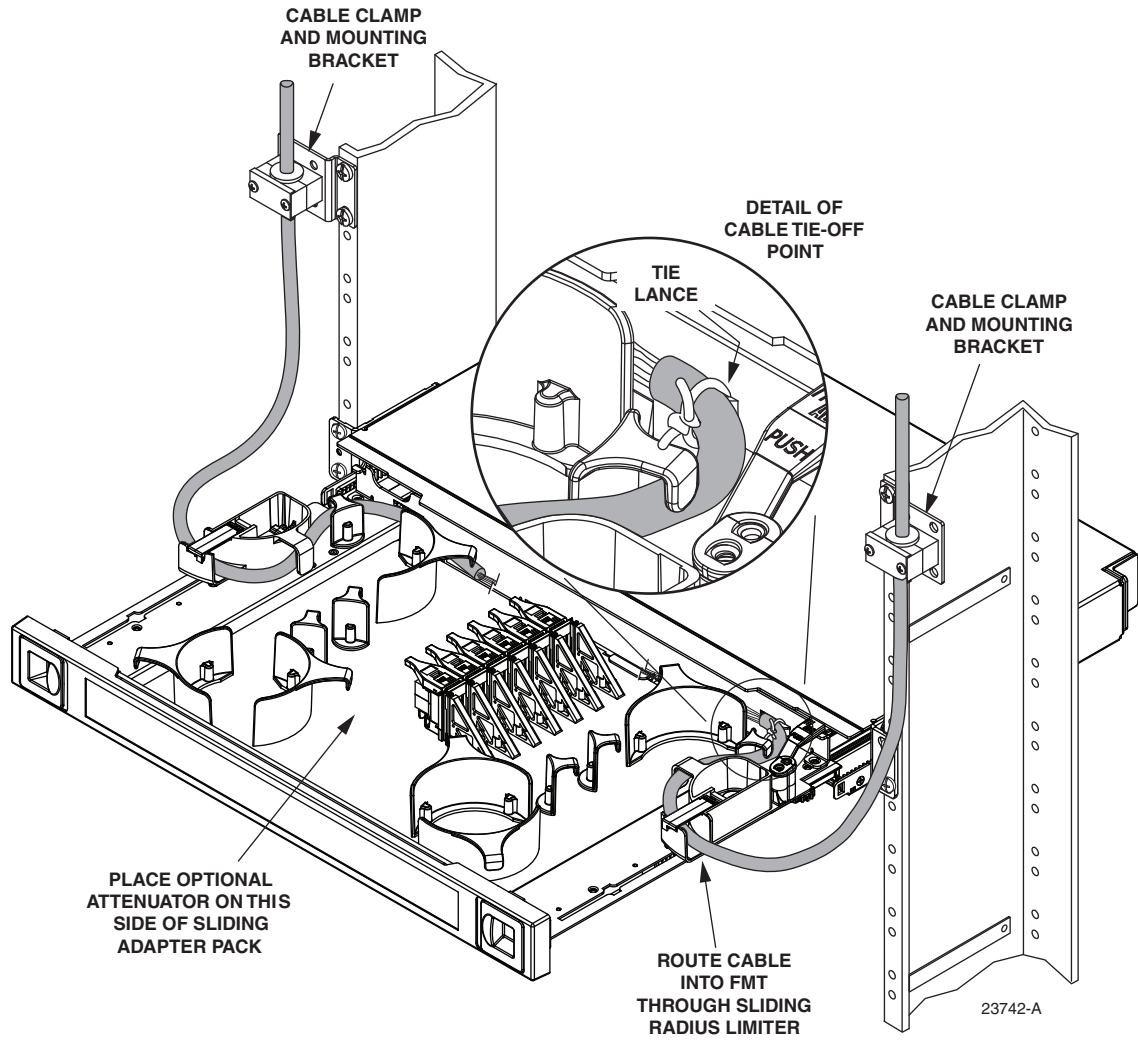
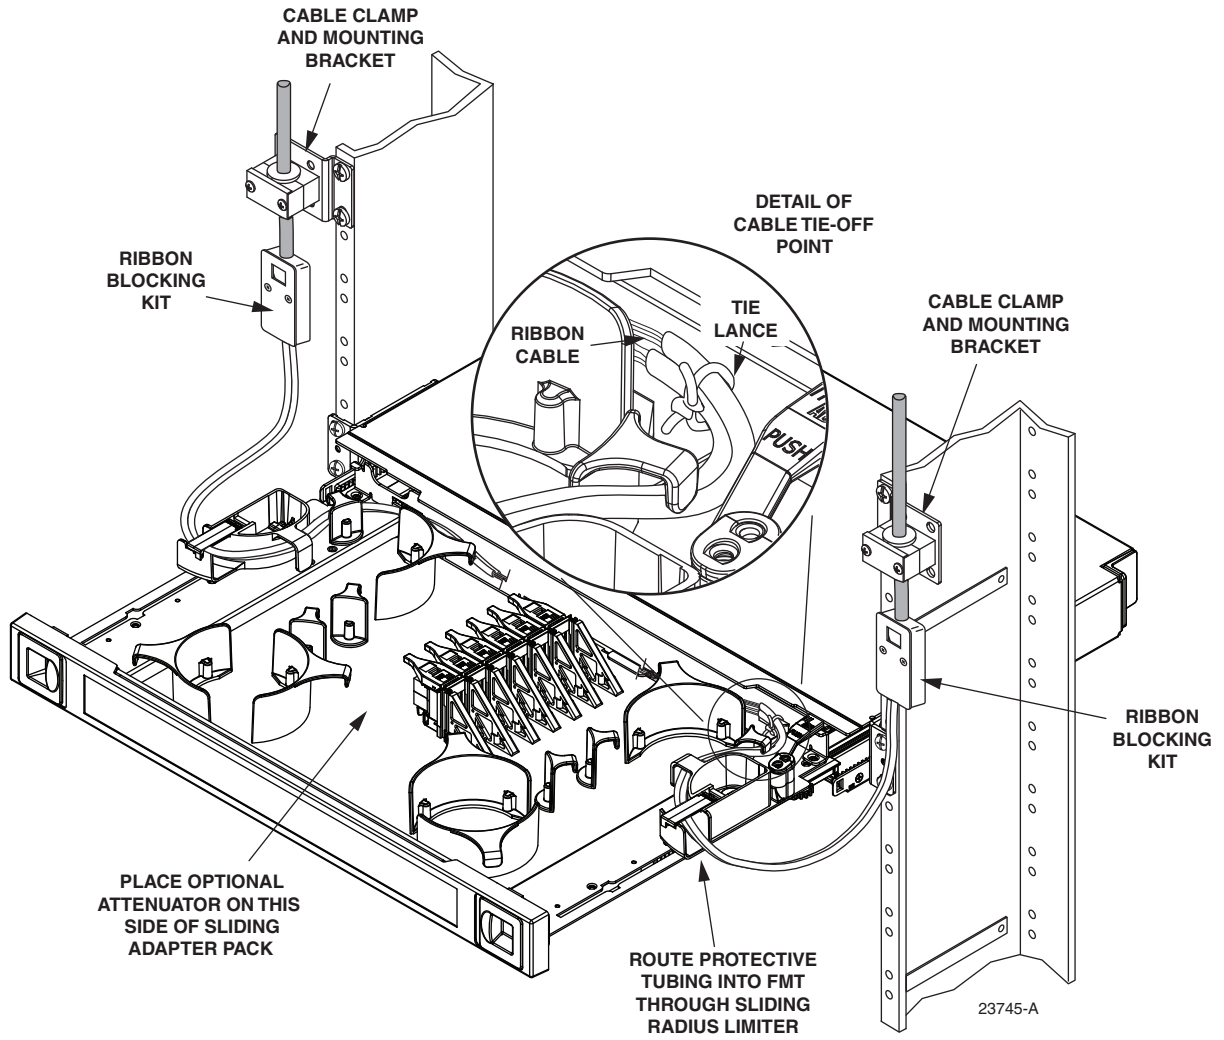

Figure 9. Routing and Securing Cable - Typical Configuration for IFC Stranded Cable
Figure 10. Routing and Securing Cable - Typical Configuration for Ribbon Cable
Figure 9 and Figure 10 show typical cable routing. Prior to routing cables, review the installation procedure corresponding to the drawing provided with the panel. Then use the following guidelines for routing and installing the cables or patch cords:
3. Secure the cable on the rack using a cable clamp such as shown in Figure 9 and Figure 10.
7. Secure the cables to the back of the FMT at the rear tie-off point (see Figure 9 and Figure 10). Note that a tie-off point is provided on both the left and right side.
Attenuators decrease the optical power in a fiber by a specific or adjustable amount. Once the desired level of attenuation is determined, fixed attenuators may be inserted in the fiber optic line to deliver a precise output. Optional attenuators are installed on tab side of the sliding adapter packs. See Figure 9.